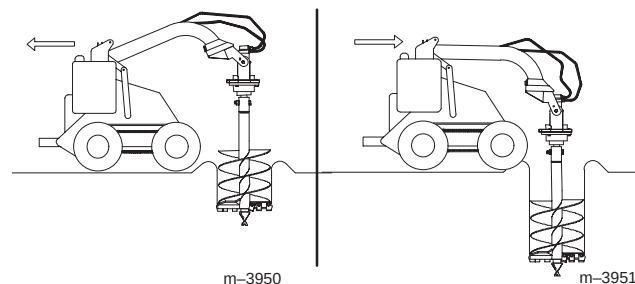

Figure 7
5. Lower the auger slowly as the soil is loosened. As you dig deeper, move the traction unit backward or forward as required to keep the hole vertical (Fig. 7).